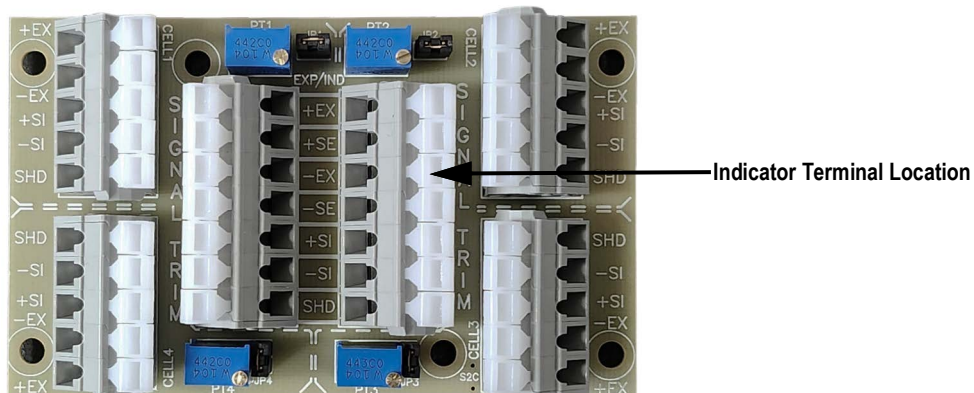

Figure 2-8. Junction Box Wiring
8. Connect the wires to the indicator terminal (Figure 2-8 on page 11) as shown in Table 2-1.